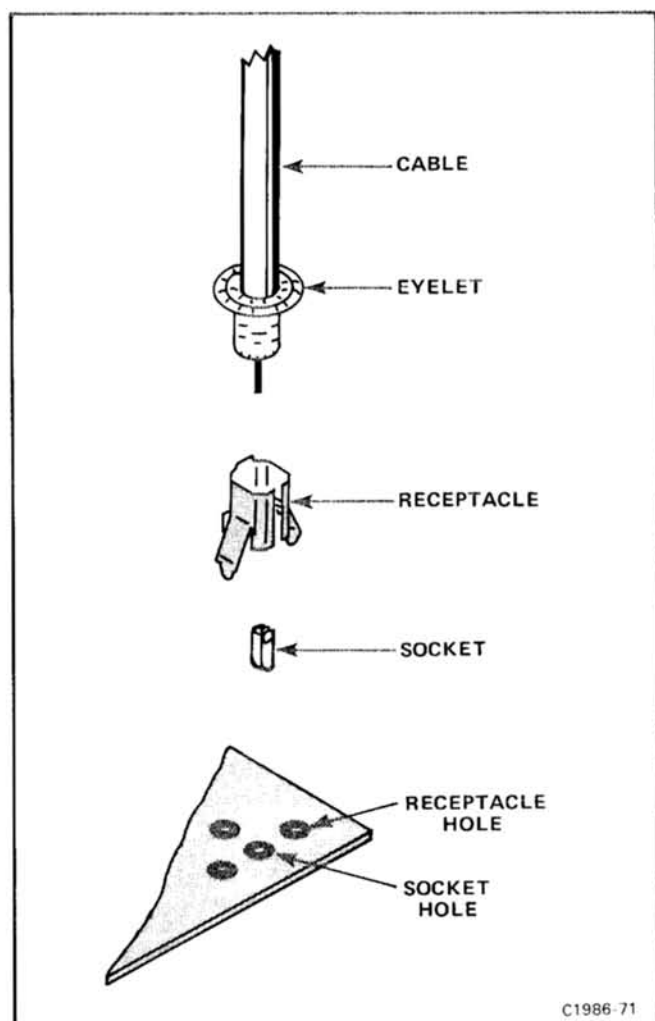

Figure 4-8. Coaxial end-lead connector assembly.
4. Note wire color on single-conductor shielded cables (see Fig. 4-8) and connector to which each is attached.
5. Disconnect coaxial end-lead connector from bottom of board (see Fig. 4-8 for identification). Remove board from instrument.
Three methods of interconnection are used to connect the circuit boards with other boards and components. When the interconnection is made with a coaxial cable, a special end-lead connector plugs into a socket on the board (Fig. 4-8). When the interconnection is made with a wire lead, an end-lead connector is used which mates with the interconnecting pin soldered into the board (Fig. 4-4). When the interconnection is made between adjacent boards, an inter-board multi-pin connector is used (Fig. 4-3). The following information provides the removal and replacement procedure for the various types of interconnection methods.